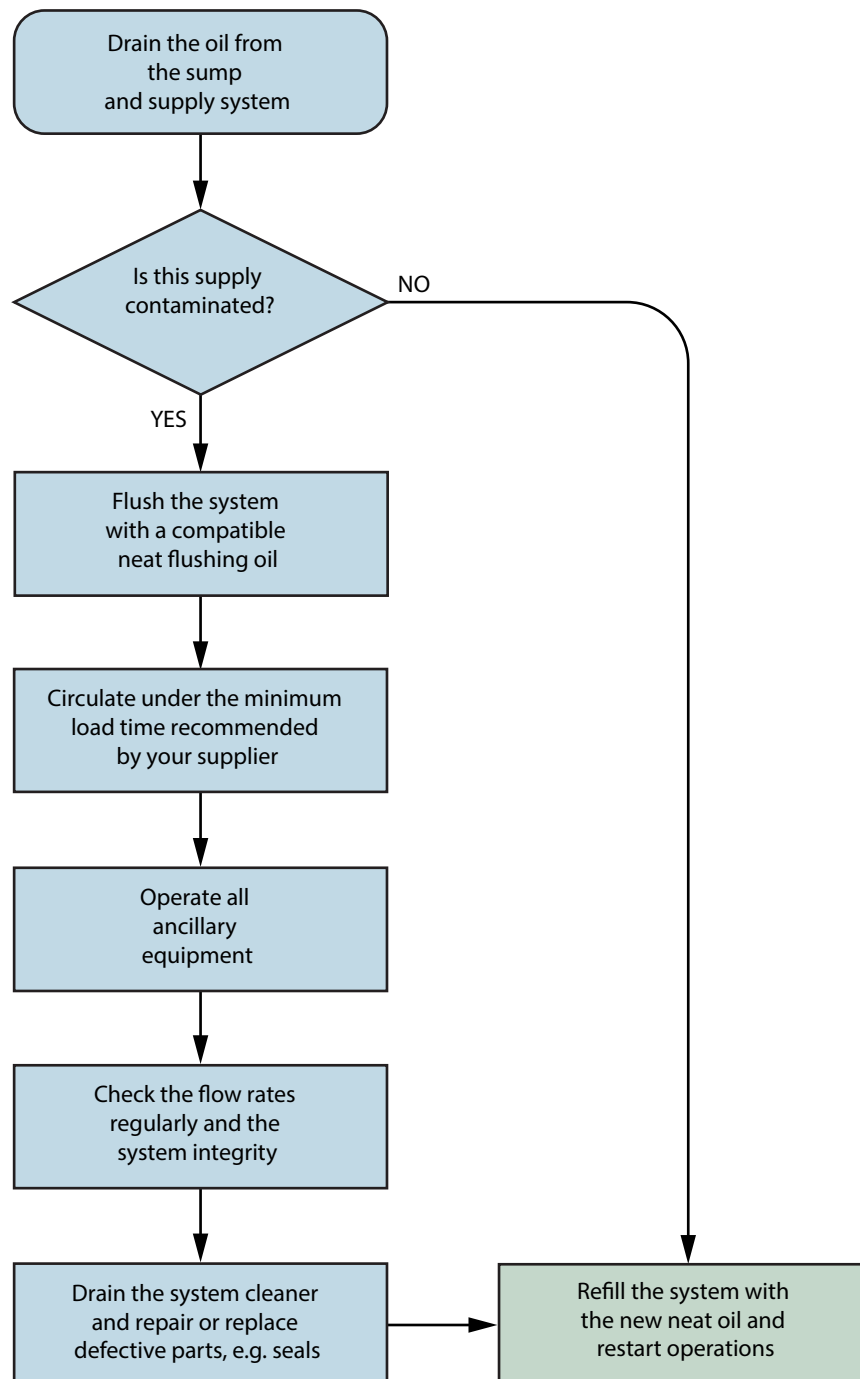

Figure 19: Decision chart outlining key steps in cleaning out a supply system containing neat oil MWF system.
- The recommended procedure for cleaning a system containing neat oil is outlined in Figure 19.